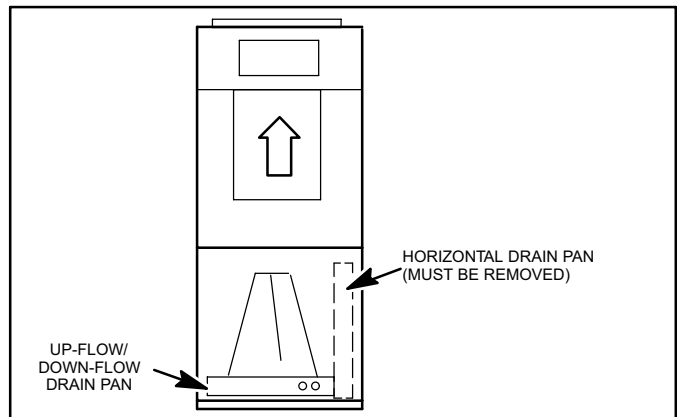

Figure 1. Up-flow Configuration
- Step 4. After removing horizontal drain pan, place the unit in desired location. Set unit so that it is level. Connect return and supply air plenums as required using sheet metal screws as illustrated in figure 1.